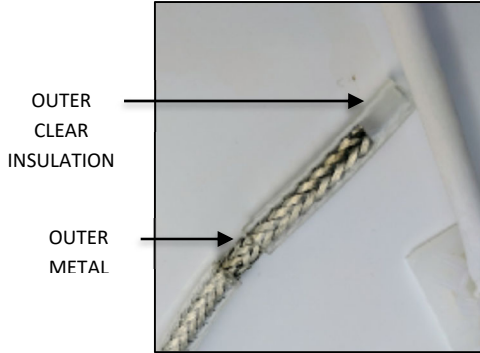
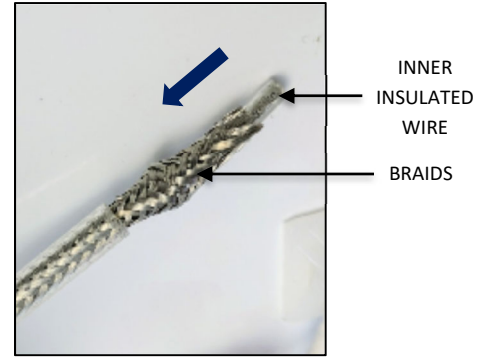

FIG. 24
FIG. 25
- Strip off 1.00" of outer clear insulation exposing the outer metal braiding as shown in FIG. 24 below. **Be careful not to cut or damage the outer metal braiding.** Gently push braiding down to loosen the individual braids exposing the inner insulated wire as shown in FIG. 25 below.